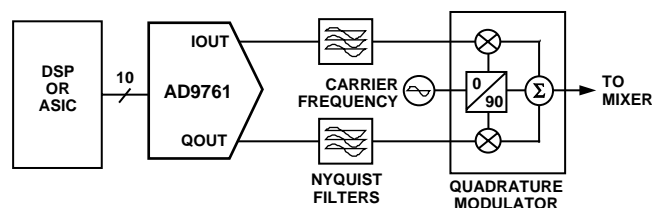

Figure 31. Typical Analog QAM Modulator Architecture
QAM is one of the most widely used digital modulation schemes in digital communication systems. This modulation technique can be found in both FDMA as well as spread spectrum (i.e., CDMA) based systems. A QAM signal is a carrier frequency which is both modulated in amplitude (i.e., AM modulation) and in phase (i.e., PM modulation). At the transmitter, it can be generated by independently modulating two carriers of identical frequency but with a 90° phase difference. This results in an inphase (I) carrier component and a quadrature (Q) carrier component at a 90° phase shift with respect to the I component. The I and Q components are then summed to provide a QAM signal at the specified carrier or IF frequency. Figure 31 shows a typical analog implementation of a QAM modulator using a dual 10-bit DAC with 2× interpolation, the AD9761. A QAM signal can also be synthesized in the digital domain thus requiring a single DAC to reconstruct the QAM signal. The AD9853 is an example of a complete (i.e., DAC included) digital QAM modulator.